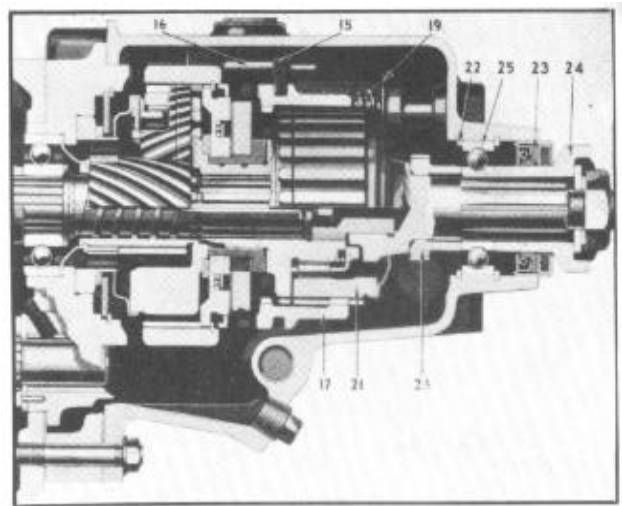

Figure 28--Disassembling Overdrive Case Assembly
1. Remove shifter rail reverse lock-up plunger (16), Figure 28, from front of case.